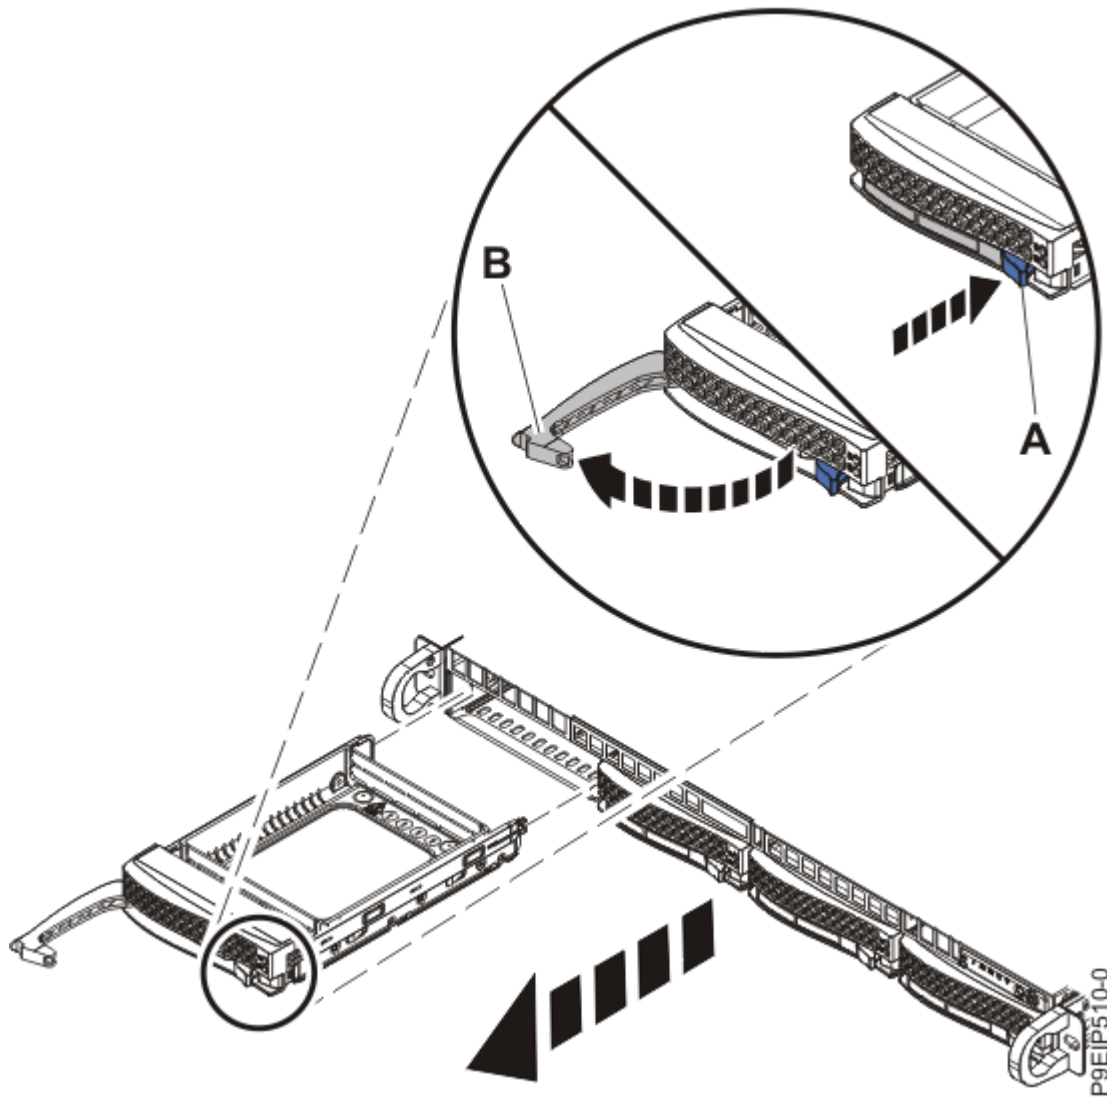

Figure 7. Removing a drive
2. Unlock the drive bay handle (**B**) by pushing in the handle release (**A**) as shown in Figure 7 on page 12. The handle (**B**) snaps out towards you. If the handle does not snap out all the way, the drive does not slide out of the system.